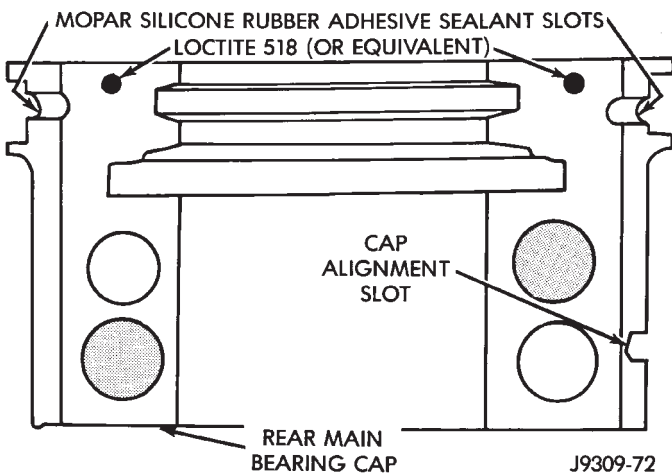
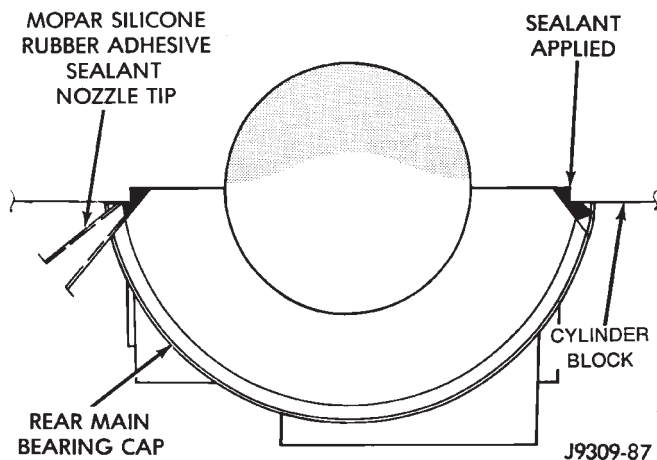

Fig. 46 Sealant Application to Bearing Cap
Fig. 47 Apply Sealant to Bearing Cap to Block Joint
(Fig. 46). DO NOT over apply sealant or allow the sealant to contact the rubber seal. Assemble bearing cap to cylinder block immediately after sealant application.
(8) To align the bearing cap, use cap slot, alignment dowel and cap bolts. DO NOT remove excess material after assembly. DO NOT strike rear cap more than 2 times for proper engagement.
(9) Clean and oil all cap bolts. Install all main bearing caps. Install all cap bolts and alternately tighten to 115 N·m (85 ft. lbs.) torque.
(10) Install oil pump.
(11) Apply Mopar Silicone Rubber Adhesive Sealant, or equivalent, at bearing cap to block joint to provide cap to block and oil pan sealing (Fig. 47). Apply enough sealant until a small amount is squeezed out. Withdraw nozzle and wipe excess sealant off the oil pan seal groove.
(12) Install new front crankshaft oil seal.
(13) Immediately install the oil pan.
(1) Clean the cylinder block mating surfaces before oil seal installation. Check for burr at the oil hole on the cylinder block mating surface to rear cap.
(2) Lightly oil the new upper seal lips with engine oil. To allow ease of installation of the seal, loosen at least the 2 main bearing caps forward of the rear bearing cap.
(3) Rotate the new upper seal into the cylinder block being careful not to shave or cut the outer surface of the seal. To assure proper installation, use the installation tool provided with the kit. Install the new seal with the white paint facing towards the rear of the engine.
(4) Install the new lower rear bearing oil seal into the bearing cap with the white paint facing towards the rear of the engine.
(5) Apply 5 mm (0.20 in) drop of Loctite 518, or equivalent, on each side of the rear main bearing cap (Fig. 46). DO NOT over apply sealant or allow the sealant to contact the rubber seal. Assemble bearing cap to cylinder block immediately after sealant application. Be sure the white paint faces toward the rear of the engine.
(6) To align the bearing cap, use cap slot, alignment dowel and cap bolts. DO NOT remove excess material after assembly. DO NOT strike rear cap more than 2 times for proper engagement.
(7) Install the rear main bearing cap with cleaned and oiled cap bolts. Alternately tighten ALL cap bolts to 115 N·m (85 ft. lbs.) torque.
(8) Install oil pump.
(9) Apply Mopar Silicone Rubber Adhesive Sealant, or equivalent, at bearing cap to block joint to provide cap to block and oil pan sealing (Fig. 47). Apply enough sealant until a small amount is squeezed out. Withdraw nozzle and wipe excess sealant off the oil pan seal groove.
(10) Immediately install the oil pan.
(1) Clean the rear main cap mating surfaces including the oil pan gasket groove.
(2) Carefully install a new upper seal (refer to Upper Seal Replacement - Crankshaft Installed procedure above).
(3) Lightly oil the new lower seal lips with engine oil.
(4) Install a new lower seal in bearing cap with the white paint facing the rear of engine.
(5) Apply 5 mm (0.20 in) drop of Loctite 518, or equivalent, on each side of the rear main bearing cap (Fig. 46). DO NOT over apply sealant or allow the sealant to contact the rubber seal. Assemble bearing cap to cylinder block immediately after sealant application.
(7) Install the rear main bearing cap with cleaned and oiled cap bolts. Alternately tighten the cap bolts to 115 N·m (85 ft. lbs.) torque.